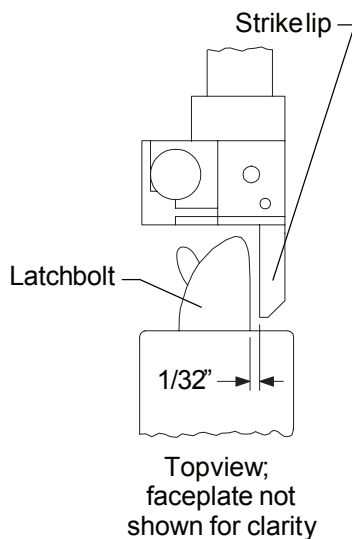
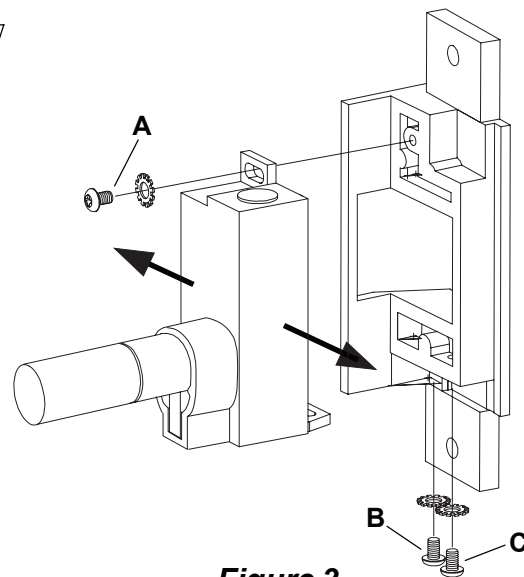

Figure 2
Figure 3
5. Install strike with two #12-24 screws. Make sure clearance between latch bolt and strikelip is 1/32" (Figure 2). If not, uninstall strike, adjust (Figure 3), and reinstall.